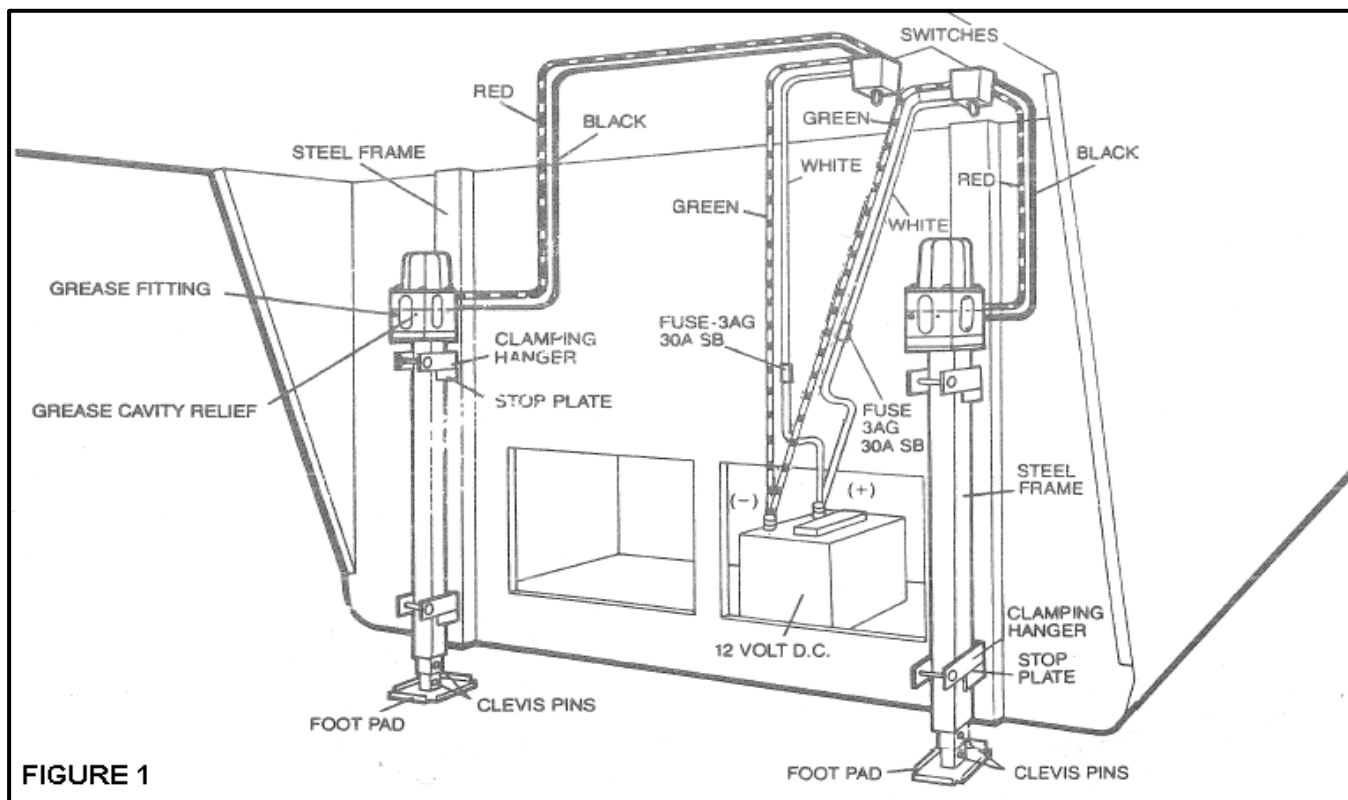

FIGURE 1
3. Mark the exact location for mounting each set of hangers, making sure that the landing legs are at the same height and that they are straight vertically. **FIGURE 1.**
NOTE: The Stop Plates must be positioned UNDER the clamping hangers. FIGURE 1.
1. Wire the Ultra-Fab 5th Wheel Landing System. **FIGURE 1.**